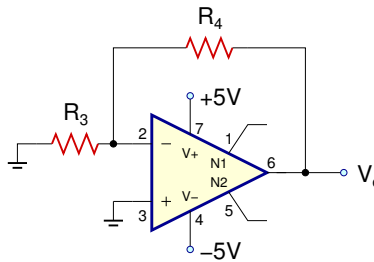

Figure 3: Offset Voltage Measurement Configuration
1. Build the circuit in Fig. 3 with the calculated values of R_3 and R_4 . Measure the value of V_o , which is the output offset voltage.
5. For the offset voltage measurement circuit in Fig. 3: